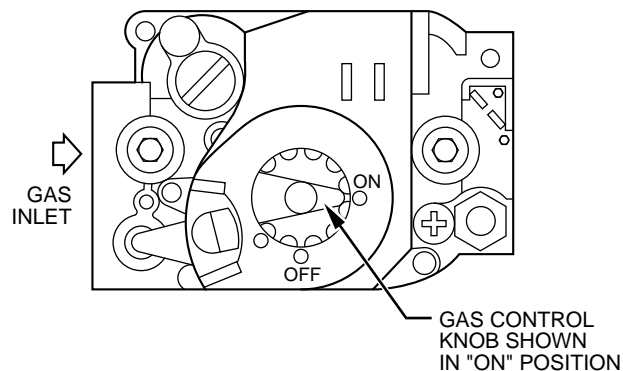

Fig. 8—Gas Valve
6. Turn gas control knob clockwise to OFF position. (See Fig. 8.)
7. Turn gas control knob counterclockwise to ON position. (See Fig. 8.)
3. Turn gas control knob clockwise to OFF position. (See Fig. 8.) Do not force.